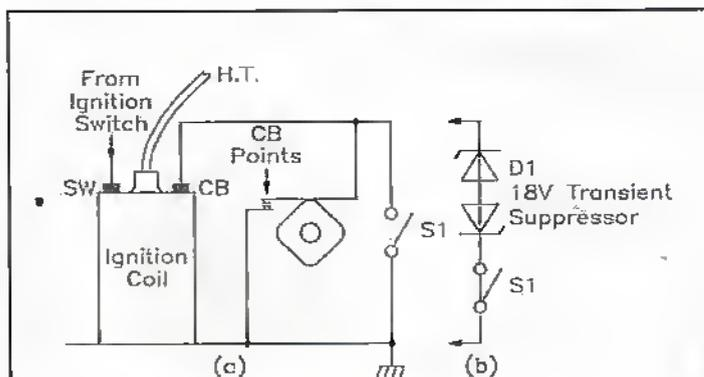

Figure 1. Contact-breaker immobiliser, operates when switch is closed.
compulsory in the UK during WW2) only takes half a minute to perform, and is recommended whenever a vehicle is left parked in a public area for more than a few days, but is too inconvenient a practice for every-day use. Instead, simple and convenient immobilisers can take the form of a secret switch (or remotely-controlled relay contacts) wired into some vital electrical part of the vehicle's engine; Figures 1 to 4 show some basic circuits of this type.
Figures 1 and 2 show how immobilisers can be wired into the engine's ignition system. In Figure 1(a), switch S1 is wired across the engine's contact-breaker (CB) points; when S1 is open the ignition operates normally, but when it is closed the CB points are shorted out
The improved immobiliser circuit of Figure 1(b) does not suffer from the above snags. Here, an inexpensive and easily available 18V transient suppressor diode (D1) – which acts like a pair of back-to-back Zeners – is wired in series with S1. This device passes no current until its applied voltage exceeds 18V, and acts like a near-short to voltages greater
In Figure 2 the immobiliser switch is wired in series with the vehicle's ignition switch, so that the engine operates only when the switch is closed. The protection offered by this widely-used type of circuit is not quite as good as that of Figure 1, since a moderately skilled thief can easily by-pass the immobiliser and ignition switches by simply hooking a wire from the battery to the SW terminal of the ignition coil.
Figure 3 shows how a heavy-duty immobiliser switch can be wired into the vehicle's electric starter system, so that the starter only operates if this switch is closed. This system gives better protection than that of Figure 2, but is not as good as Figure 1 because the starter solenoid can be operated manually on many old vehicles, and also because the starter and immobiliser switches can be by-passed by a single length of wire.
A weakness of the Figure 1 to 4 circuits is that they must all be turned on and off manually, and thus only give protection if the owner remembers to turn them on. By contrast, Figure 5 shows an immobiliser that turns on automatically when an attempt is made to start the engine, but can be turned off by briefly